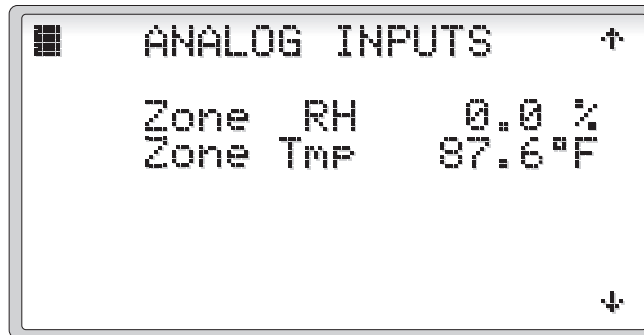

Figure 50
2.3.3.6.2 Analog Inputs (Figures 50 through 54)